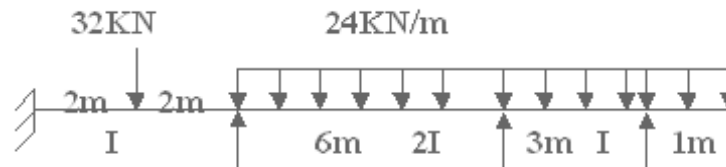

Figure 6
4. Determine the support moments for the continuous beam shown in figure 6 and draw BMD by using Kanis method. [16]